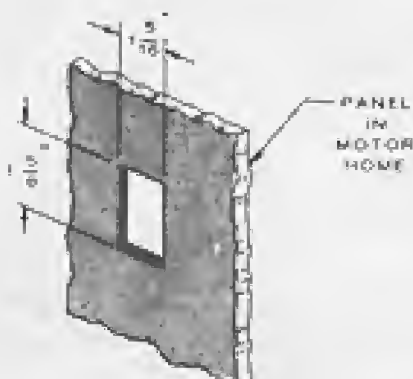

FIGURE 17. MOTOR HOME CUTOUT
1. Select control location. Using Figure 17 or 18 as a guide, drill screw holes and cut hole to accommodate remote switch in dash panel.